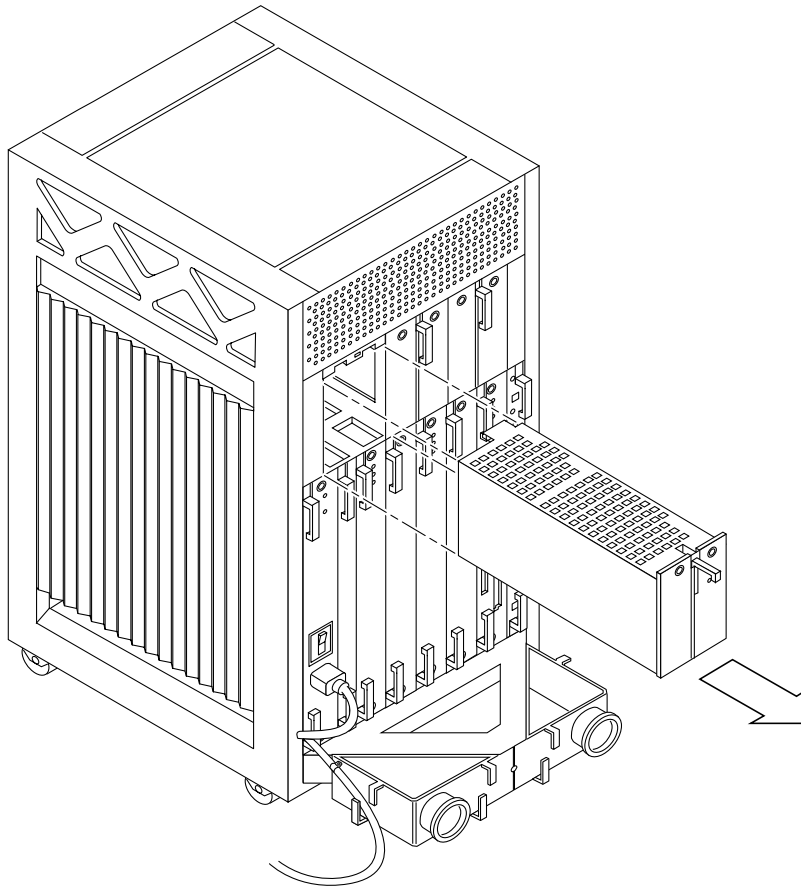

FIGURE 7-8 Replacing a PCM in the Enterprise 3500 System
4. Pull out the power supply (FIGURE 7-8).
6. Slide the power supply toward the centerplane, then use the extraction lever to seat the power supply (FIGURE 7-8).